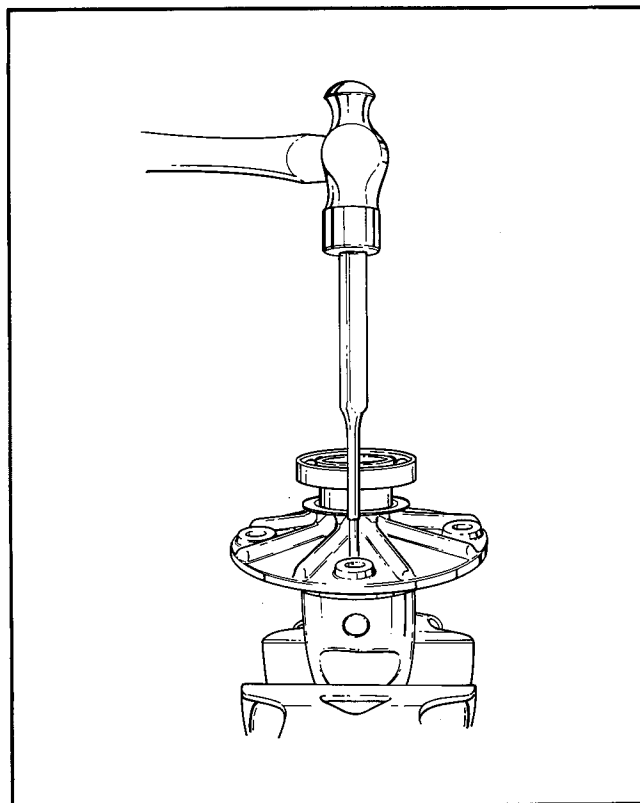

Figure 4-23 – Driving Out Lock Pin
- k. Drive out lock pin (31) which secures idler gear shaft (30) to differential case (24). See Figure 4-23.